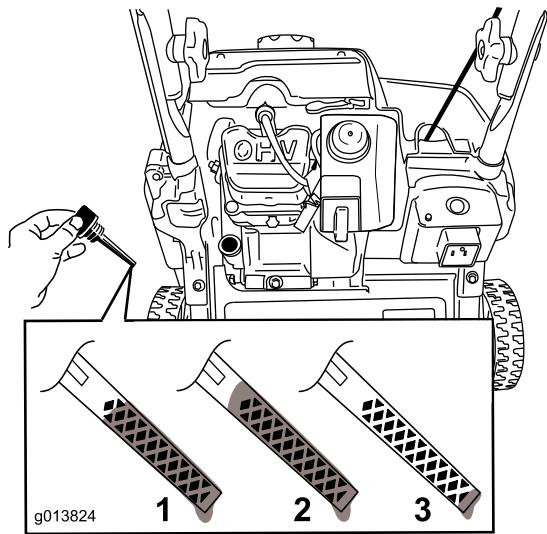

Figure 23
**Note:** To determine the proper oil level on the dipstick, refer to Figure 23.
**Note:** Fill the engine crankcase with oil until the dipstick indicates that the engine-oil level is correct as shown in Figure 23. If you overfill the engine with oil, remove the excess oil from the drain plug into an oil-drain pan.